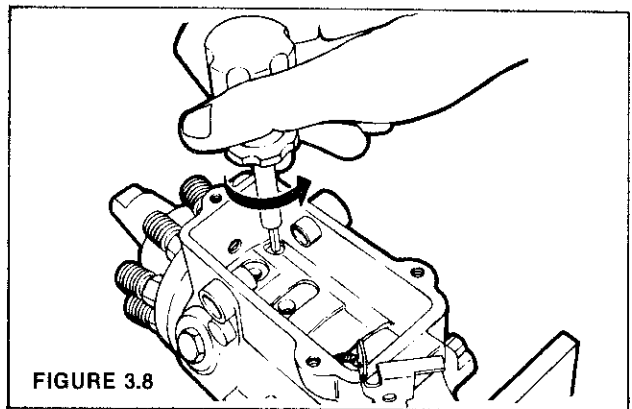

FIGURE 3.8
STEP 8 Loosen and remove the vent wire screw assembly using the 16336 wrench (Figure 3.8).